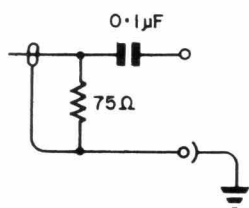
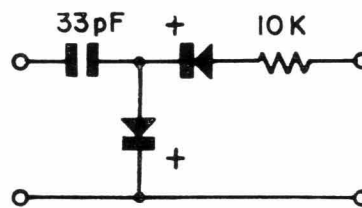

Fig. 1
Fig. 2
- Inject 5.5 MHz sweep through probe of Fig. 1 to junction of L112 and R119 (base of TR105). Connect detector (Fig. 2) to collector of video output (TR106) and connect display unit to output of detector.
- Injection Probe (Fig. 1)
- Detector (Fig. 2)
2. IF injection probe (Fig. 1).
- (b) Open link between C118 and R110, and using probe of Fig. 1, connect the output of the sweep through the attenuator to the R110 side of the link. The earth connection should be made to the earth point of C122.